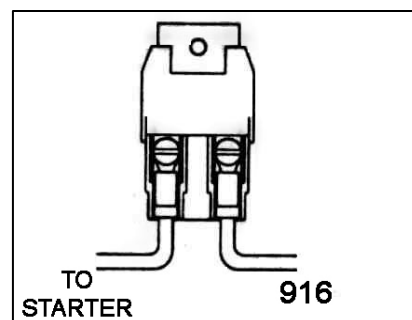

Figure 7-3 Maxi Fuse
7.3.1 With crimping tool, attach Maxi Fuse (**Figure 7-3**) onto end of ENGINE SECTION (single) 10 ga. wire #916 (red) AFTER having routed wire from the Fuse Panel to the Starter Solenoid. This serves as a fuse to protect the entire harness. DO NOT OMIT IT!
8.2.1 With crimping tool, attach the Maxi Fuse (**Figure 7-3**) onto end of ENGINE SECTION (single) 10 ga. wire #916 (red) AFTER having routed wire (with or without ammeter) from the Fuse Panel to the Starter Relay. This serves as a fuse to protect the entire harness. DO NOT OMIT IT!